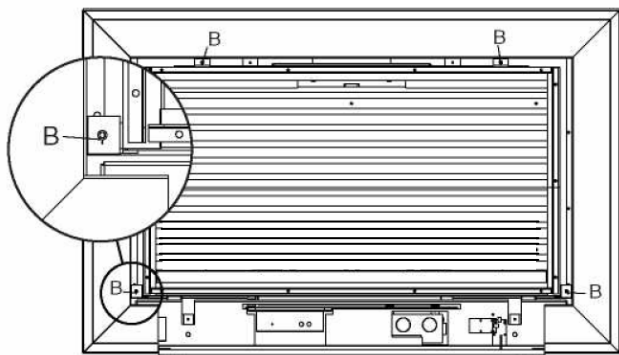

Fig. 7
- 2) Remove the back panel by loosening the screws B (see fig. 7).